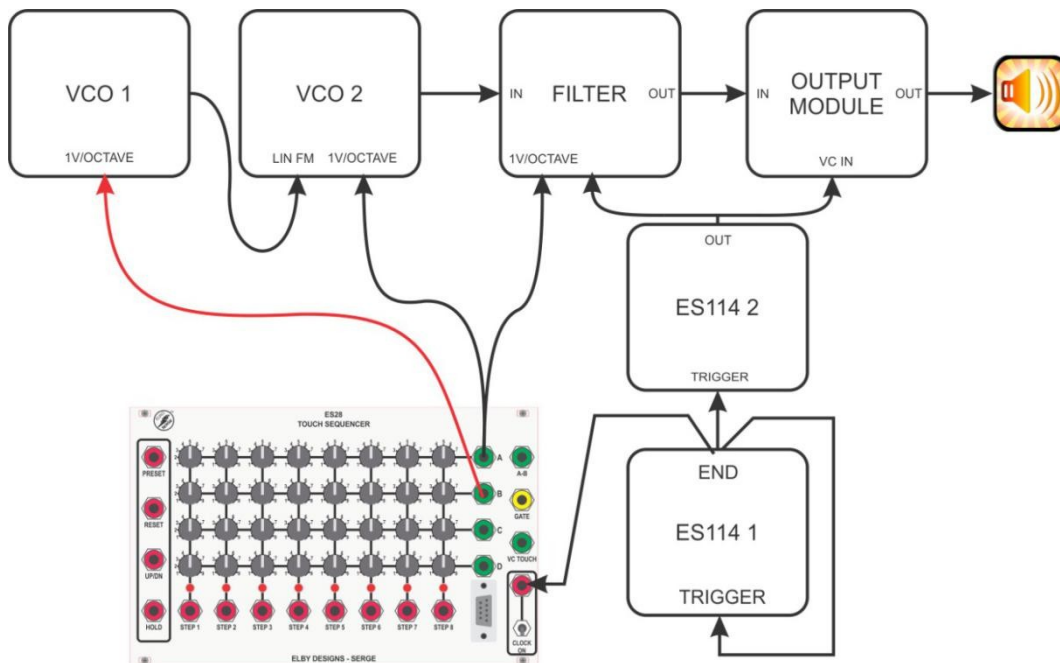

Figure 4.7.7
7.5 For this patch it is helpful to set all the pots in row [A] to different settings so that the different stages are distinguished from each other. Figure 4.7.7 shows the logical extension of this automated ES28 combined with the instrument sound we previously developed:-